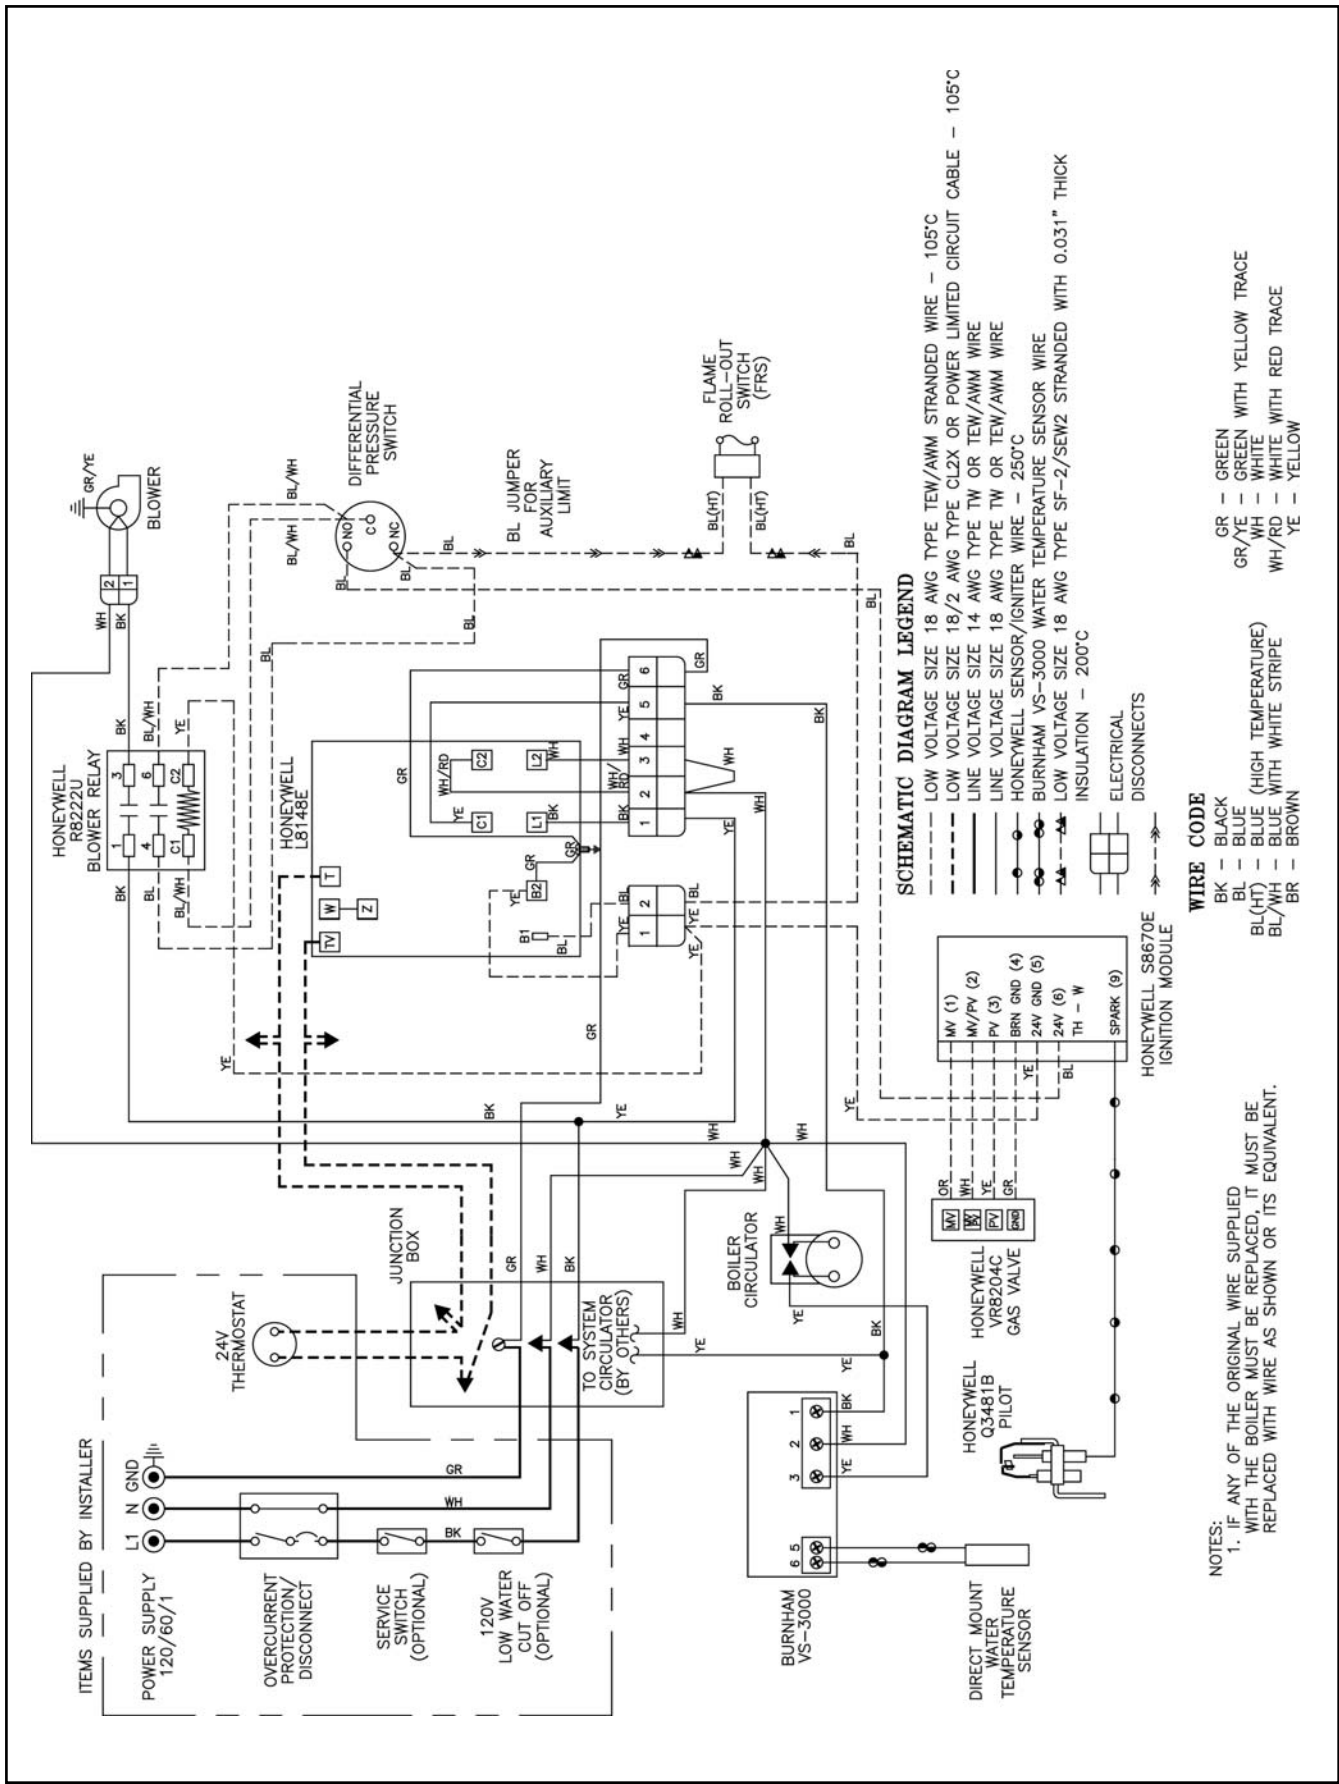

Figure 31: Internal Boiler Wiring Schematic Diagram
- C.** Refer to Figures 31 and 32 for details on the internal boiler wiring.